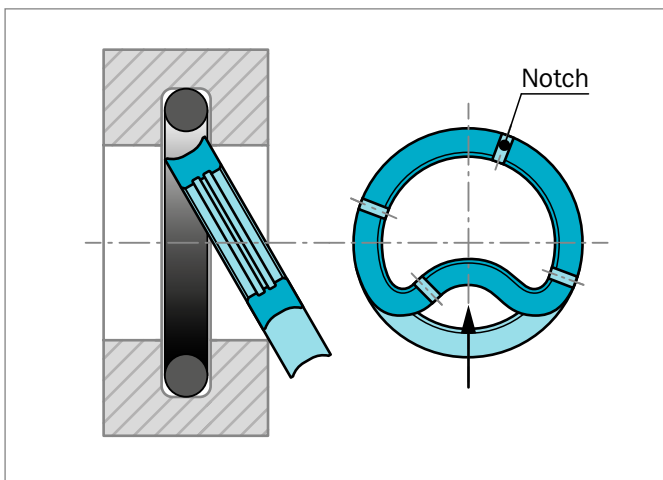

Figure 164: Installation of shaft Turcon® Roto Glyd Ring® type in closed groove
- Fold the Turcon® seal ring into a kidney shape (see Figure 164).
- 2) The Turcon® Roto Glyd Ring® V seal ring, with Quad-Ring® installed, is compressed into a kidney-shape and placed in the groove, see Figure 164.